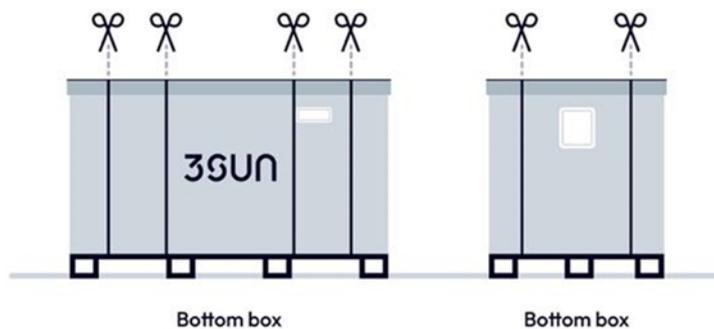

Figure 16: Bottom box internal straps removal order.
- a) Cut the outer box straps (Figure 16).